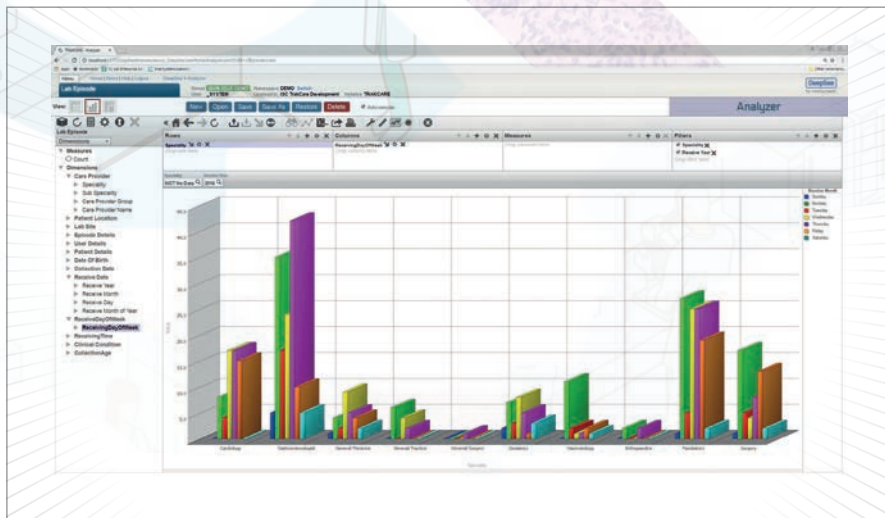
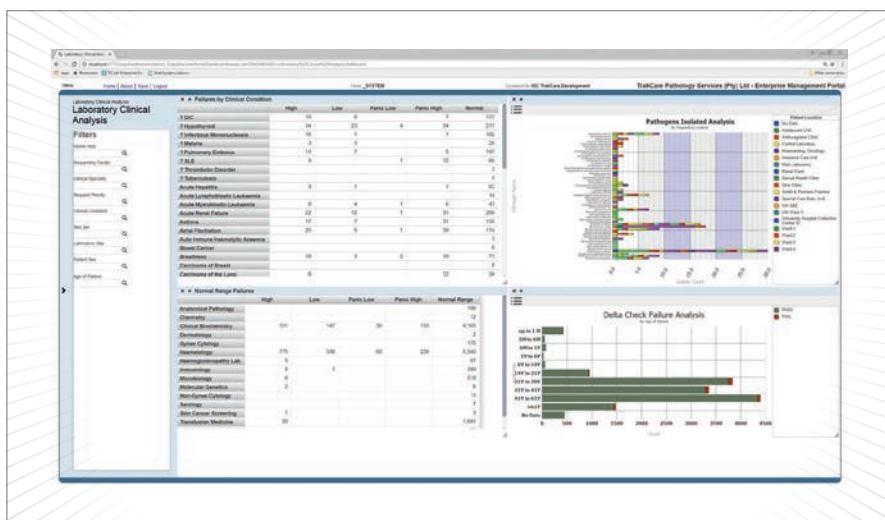

Figure 1. Requests received by each department, broken down by day of the week to facilitate resource planning.
Figure 2: Clinical data can be presented as graphs or spreadsheets for analysis and export.
To that end, pioneering service providers are now starting to use laboratory business management systems (LBMS) to help them measure performance and gain an understanding of the costs, patient requirements and workflow needed to cope with unprecedented healthcare pressures. (For an example of these systems, see Figure 1.) I expect that, as the advantages of this entirely new generation of IT platforms become better-known, labs around the world will begin using them to support laboratory processes and to track the data they need to manage their work effectively – and to implement evidence-based transformation initiatives.
Why do we need such business-oriented laboratory technology? Modern service-level agreements demand improvement and require governance to monitor that improvement. LBMS platforms can capture and analyze the necessary data to show compliance (see Figure 2). They help the laboratory to transform from a reactive testing service
A major problem in routine analysis via LC-MS is that the LC column captures most of the substances in a sample; all of which elute into the MS over the course of the separation. With samples containing 10,000 or more components (see Figure 1), analytes and non-analytes will co-elute (3), making analyte differentiation difficult. Additionally, co-eluting non-analytes cause ion suppression, add background noise in spectra, and produce fragment ions of mass similar to analytes. Although MS is capable of millisecond analyses, analytes elute from LC columns over long periods of time; throughput is low, and elution times vary with instrument type, temperature, column lot, and column aging. As a consequence, the MS must continuously collect and examine huge amounts of useless spectral data to assure that analyte data is captured. Clearly, the MS is being poorly utilized.
Figure 1. An illustration of problems encountered in LC-MS analysis of small numbers of analytes in complex biological samples. Red arrows show targeted analyte elution positions while the red box contains analytes that enter the mass spectrometer. Adapted from Reference 3 (highlighting added).
There is clearly a problem with the way LC is being used in routine analytical applications. Although MS can resolve the highlighted analytes (see Figure 1) a thousand times faster than LC, it cannot rid the effluent of non-analytes. The primary function of the LC should be to provide the MS exclusively with analytes of interest (devoid of non-analytes), rather than dividing complex mixtures into hundreds of fractions.
analytes – such that analytes could be rapidly transferred to an MS together (see Figure 2). The LC would be delivering a small group of highly purified, structure-specifically selected analytes to the MS for fractionation, identification, and quantification while discarding non-analytes. Being able to achieve this in two steps within minutes would have relatively large ramifications.
noise, and diminish fragment ion overlap in the MS. Structure-specific selection by the LC would be a critical component of the analysis, but the MS would be doing most of the work. The tortoise would be doing a critical thing MS cannot – quickly separating a small group of targeted analytes from the thousands of non-analytes in samples. Moreover, there would be no reason to fractionate all the non-analytes in a sample as shown in Figure 2, saving a huge amount of time. The tortoise would have crossed the finish line in two steps while the MS must do a large amount of work to finish. I think Aesop might have liked this “clever Tortoise” version of his fable...
Figure 2. An MASC solution to the problem illustrated in Figure 1. The red box is where affinity selected analytes would coelute. All other substances would be discarded before entering the mass spectrometer. Adapted from Reference 3 (peaks highlighted in Figure 1 have not actually been removed from Figure 2).
ASTPs; the retention time of ASTPs being in the range of a minute based on column dimensions and flow rate. Beyond enabling ASTP:analyte elution in the column void volume, a second advantage of MASC with an SEC column is that non-analytes have a short retention time, in contrast to the reversed phase chromatograms in Figure 1 and 2.